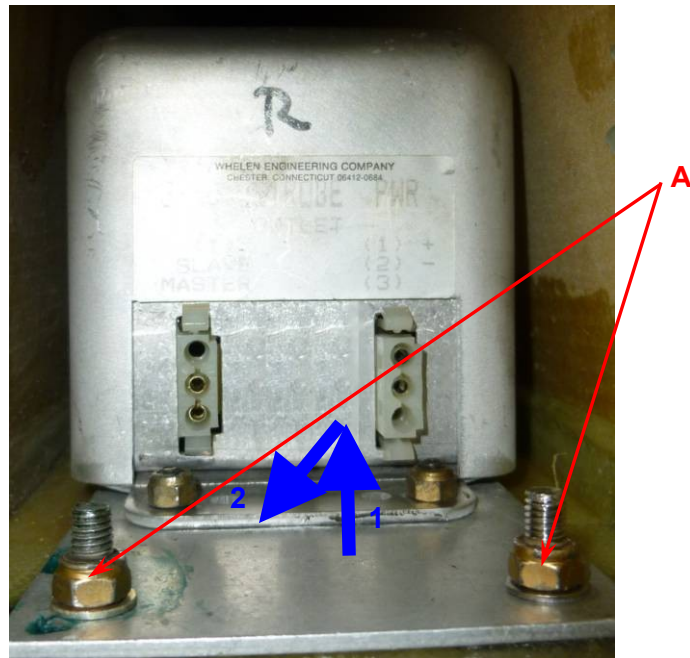

Figure 5 Steps to remove Strobe Power Supply, type with 2 connectors shown
- 1.8.18 Remove the two nuts at the strobe power supply plate (refer to Figure 5, item A).
- 1.8.19 Remove the two ring terminal that attaches the wires to the bolts. Lift the power supply together with the plate over the two bolts and pull it out. Refer to Figure 5, blue arrows. Carefully remove the power supply unit from the wing through the access hole.